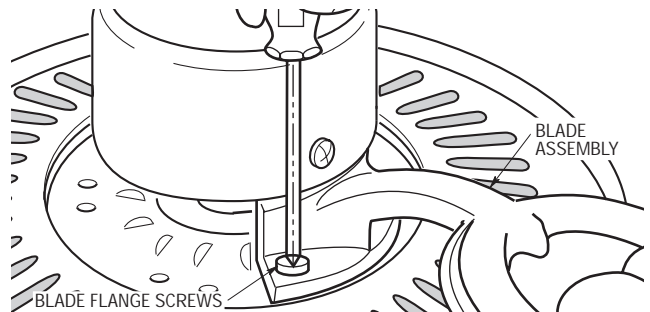

Figure 8
- 10. Loosely attach one blade assembly to the motor hub using two 1/4-20 x 1/2" Phillips oval head flange screws. Make sure the screws are **NOT** tightened. (Figure 8.) Repeat this procedure for other four blade assemblies.